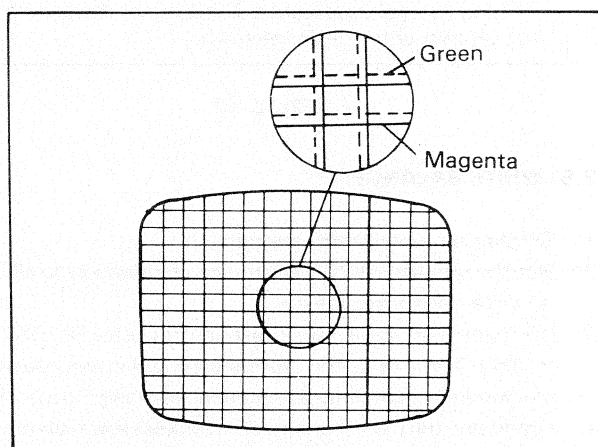

Fig. 2-8
- 5) Turn the green cutoff VR full clockwise and adjust the two 6 pole convergence magnets so that the green and magenta become overlapped throughout the picture area to yield white. (Fig. 2-8).